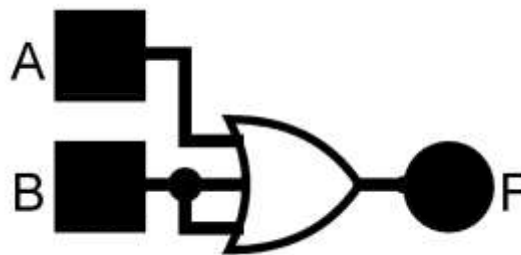

Figure 3(c)
- (c) Explain the reason for connecting input B as shown in Figure 3(c). Provide another diagram connection that is also performing the same outcome as Figure 3(c). Assume that Figure 3(c) is a TTL gate.
- (d) Figure 3(d) has four inputs (A, B, C, D) and three outputs (X, Y, Z).
(i) Using the datasheets given, determine the maximum propagation delay time. Show all the important pathways of Figure 3(d) clearly. (7 marks)
(ii) Determine the maximum operating frequency that can be applied to Figure 3(d) without affecting its functionality. Show all working clearly. (1 mark)